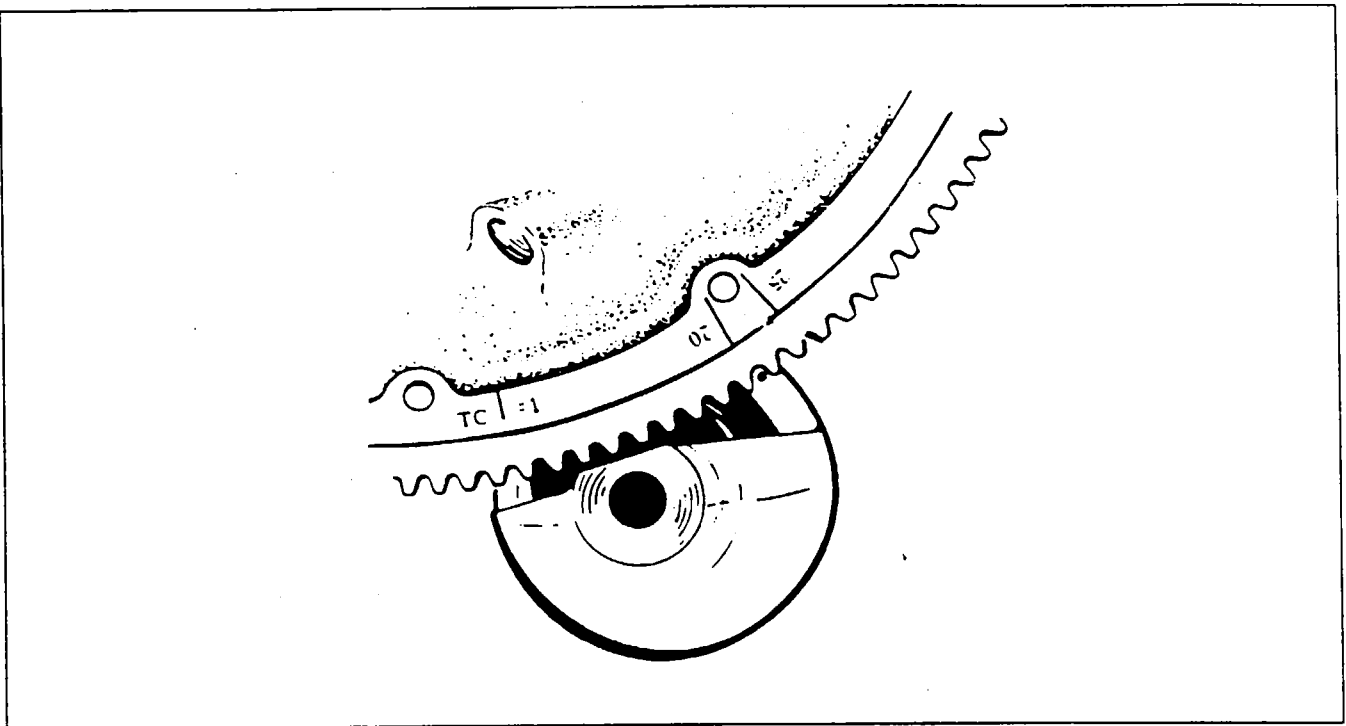

Figure 74-3. Engine Timing Marks
5. Continue turning the crankshaft until the 20° advance timing mark is in alignment with the small hole located on the top face of the starter housing at the two o'clock position. (Refer to Figure 74-3.)